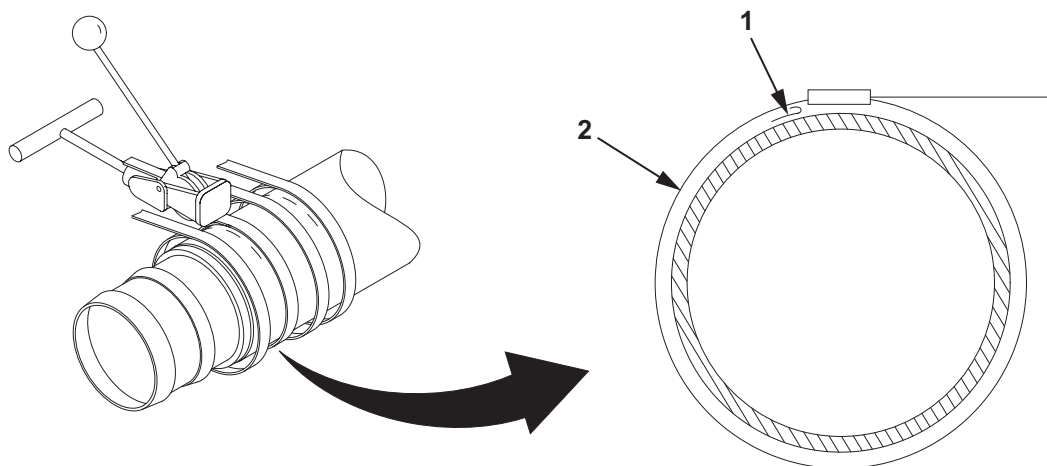

Figure 10. Hose Assembly Repair.
26. Install the bridge buckle (Figure 10, Item 1) under clamp (Figure 10, Item 2).
27. Tighten clamp (Figure 10, Item 2) until the clamp (Figure 10, Item 2) cannot be tightened by hand any further.